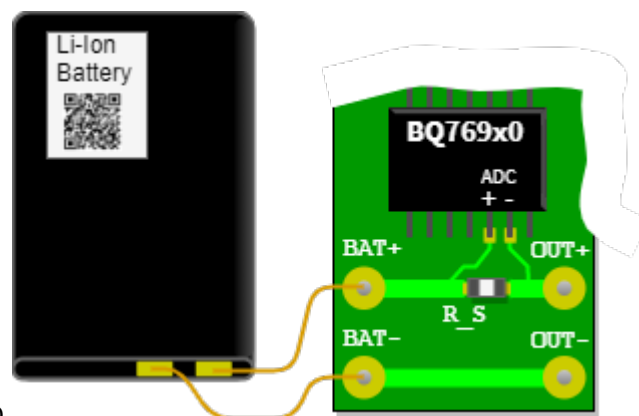

Fig. 24: Sketch of the setup
- The battery monitor BQ769x0 measures the charge and discharge currents of a lithium-ion battery by means of the voltage across a measuring resistor (shunt). In figure 24 the analog-to-digital converter (ADC) of this chip is connected to the shunt R_S via the circuit board. Through the shunt the discharge current flows from the battery connection $BAT+$ to $OUT+$ and via $OUT-$ back to $BAT-$. The shunt shall be designed so that the bipolar measurement signals have a voltage level in the range of $-0.20\ \text{V}$ to $+0.20\ \text{V}$. The analog-to-digital converter has a resolution of $15\ \mu\text{V}$. The currents can be used to count the charge in the battery to determine the state of charge (SOC).